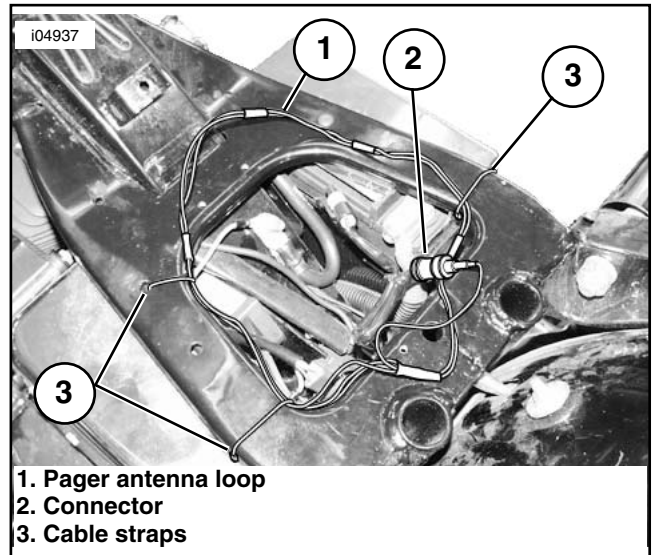

Figure 4. Install Pager Antenna
12. See Figure 4. Install the pager antenna by positioning the loop (1) around the opening in the frame pan with the connector (2) located at the rear. Secure the antenna to the frame pan using cable straps (3).
23. Slide the siren (3) (if equipped) into the slot on the inward side of the electrical caddy (4) with the siren connection facing the vehicle. Take the longer lead harness connector (5) and route it down along the frame and plug it into the siren (3).
24. Set the pager transmitter (6) in the area located under the seat. Connect the short harness lead (9) to the transmitter..
25. See Figure 4. Install the pager antenna by positioning the loop (1) around the opening in the frame pan with the connector (2) located at the rear. Secure the antenna to the frame pan using cable straps (3).
27. Secure pager to electrical caddy (4) using a cable strap (10).